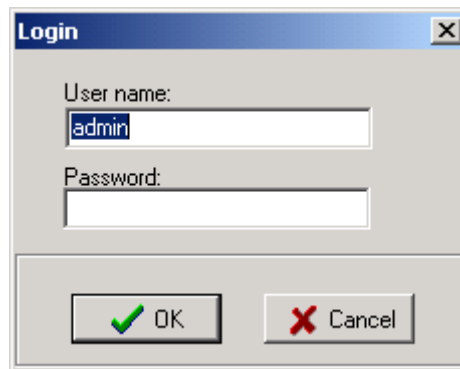

Figure.2
- Select *NEW BD. option* (Figure 2)